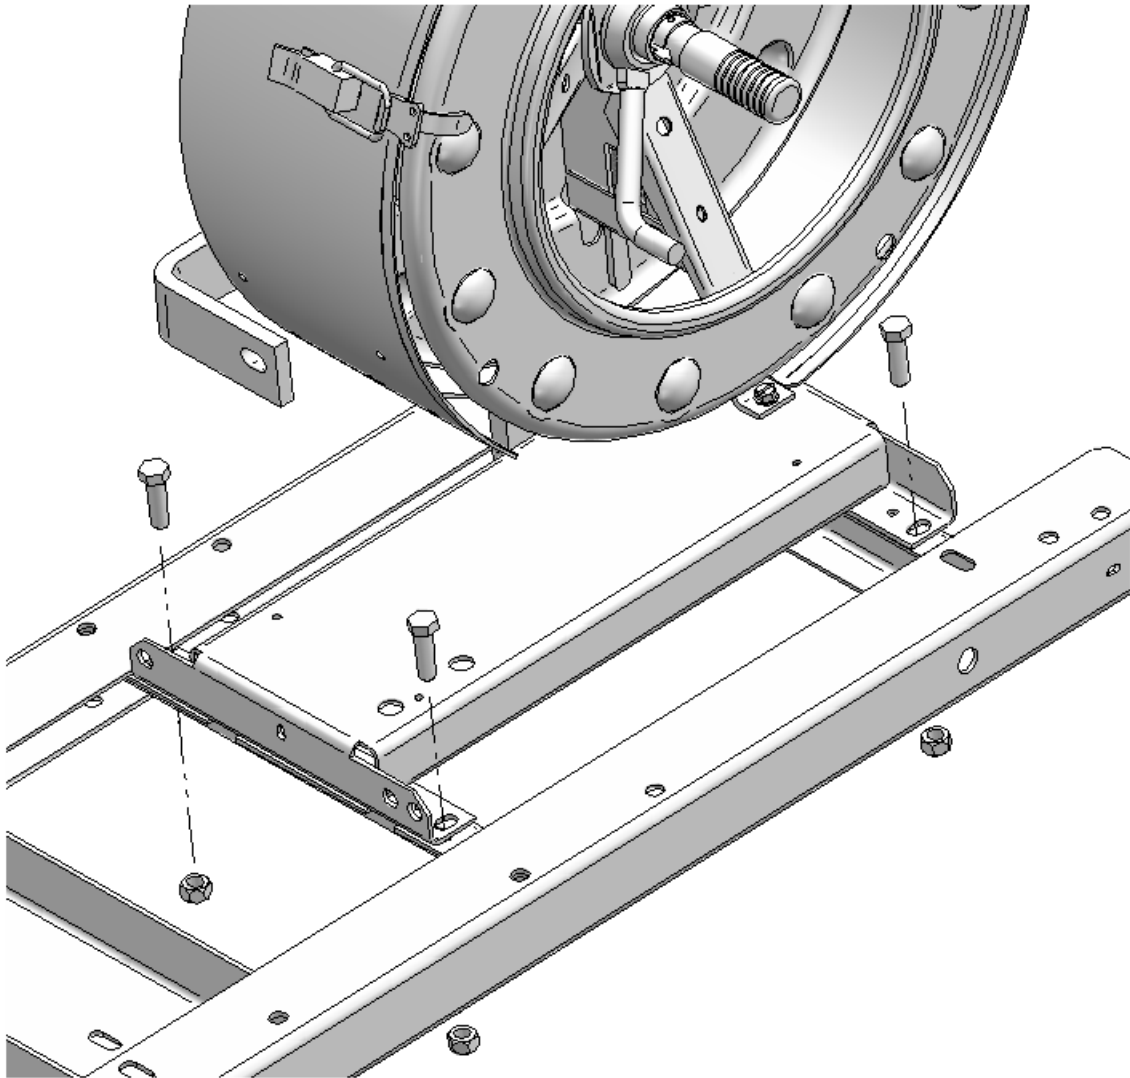

Figure 3
3. Remove fasteners that are holding down the wire reel stand to the frame as seen in Figure 3. After removal, the Wire Reel Stand may be discarded.